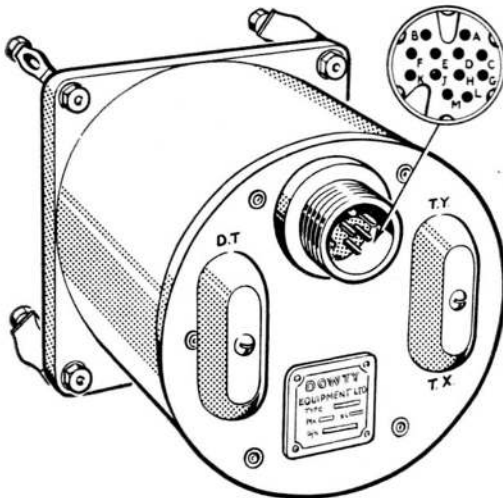
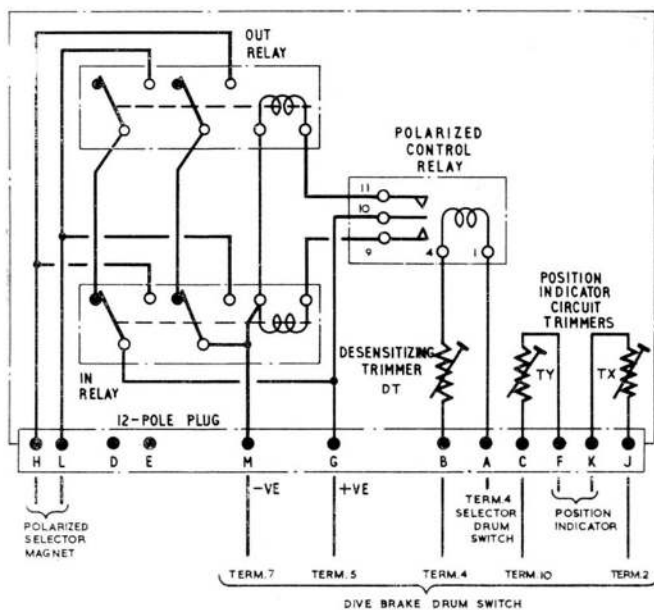

Fig. 1. Single relay panel unit, Type C5101Y, Mk. 2
Fig. 2. Circuit diagram
2. A general view of the unit is shown in fig. 1, and the circuit diagram in fig. 2. The unit differs from other Marks of the same type number in respect of the fitting of certain trimmer resistors, and in the number of contacts in the slave relays.
3. Three trimmer resistors are fitted on this unit. Trimmer DT, shown on the left in fig. 1, is used to de-sensitize the polarized control relay. The trimmer on the right is a combined trimmer, TX and TY, used to adjust the dive brake position indicator.